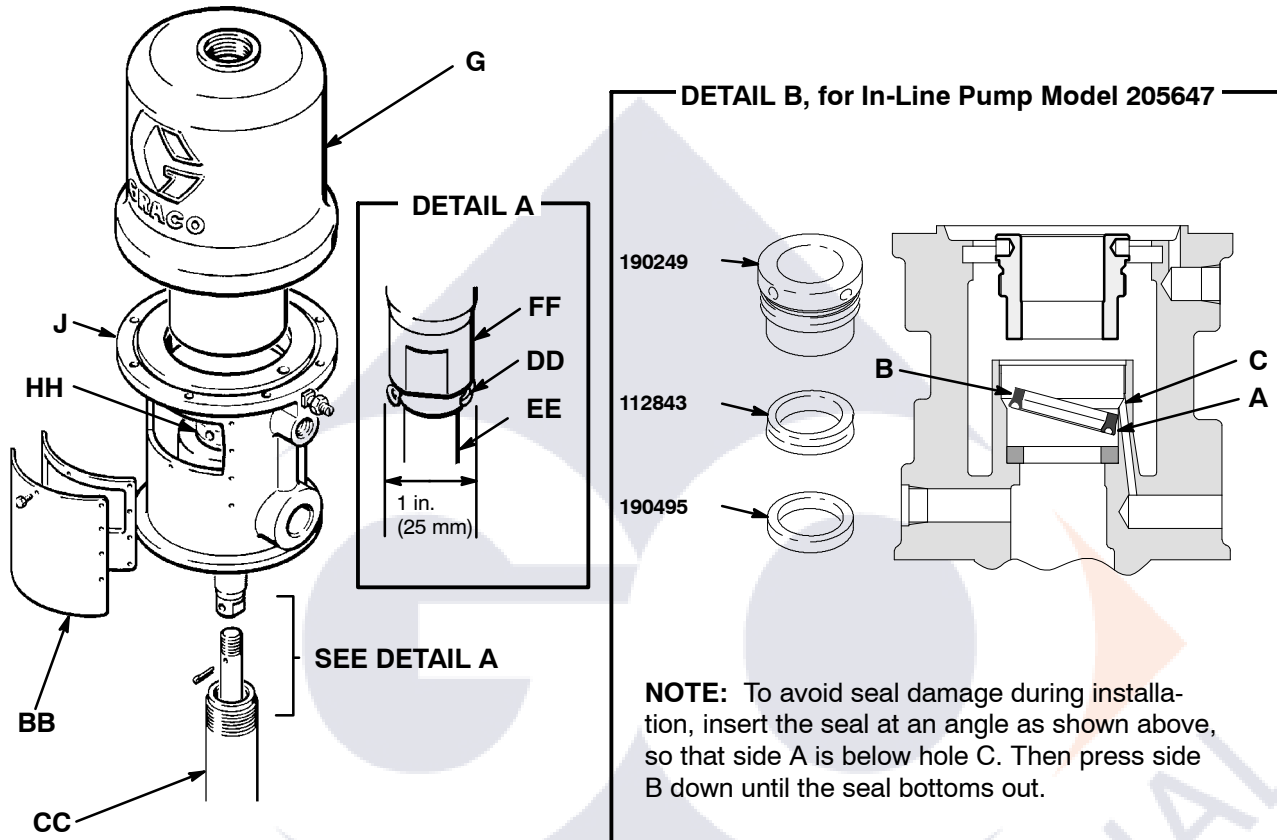

Fig. 4
**NOTE:** See Fig. 4 on page 12 and the **Parts Drawing** on page 14.
1. Clamp the pump in a vise and unscrew the displacement cylinder (CC) from the air motor base (J). Pull the displacement cylinder away from the air motor until the cotter pin (DD) which secures the displacement pump connecting rod to the air motor piston rod (FF) is visible. See Fig. 4.
2. Remove the cotter pin (DD) and unscrew the pump connecting rod (EE) from the air motor piston rod (FF). See Fig. 4. Remove the cylinder (G) from the air motor base (J) as described under **Disassembly** on page 8.
3. Remove one louvered air exhaust plate (BB) and unscrew the throat packing nut (HH), using a spanner wrench or a 0.22 in. (5.6 mm) diameter rod. See Fig. 4. Remove the spacer and packing from the base and packing nut. Clean the throat packing area in the base and the packing nut. Clean and inspect all parts and replace as necessary.
4. Lubricate the packings, piston rod and piston flange with a light waterproof grease. Reinstall the spacer and packing in the base and packing nut. Be sure the lips of the v-packings face down. See Detail B. Screw the packing nut loosely into the base. Carefully slide the piston rod down through the throat packing and lower the piston into the base. Tighten the packing nut securely. Reinstall the plate (BB) and cylinder (G). Reassemble the air motor to the displacement pump.
When reinstalling cotter pin (DD), **always** spread and flatten the pin (both the head and prongs) around the rod to within a 1 in. (25 mm) total diameter. See Detail A of Fig. 4.
See Fig. 4 on page 12 and the **Parts Drawing** on page 16.
3. Remove one louvered air exhaust plate (BB) and unscrew the throat packing nut (HH), using a spanner wrench or a 0.22 in. (5.6 mm) diameter rod. See Fig. 4.
9. Reinstall the spacer and packing in the base and packing nut (45†). Screw the packing nut into the base, and tighten it securely. Carefully slide the piston rod (FF) down through the throat packing, and lower the piston into the base. Reinstall the plate (BB) and cylinder (G). Reassemble the air motor to the displacement pump.
10. Torque the outlet adapter (42) to 45 to 55 ft-lb (61 to 75 N-m).